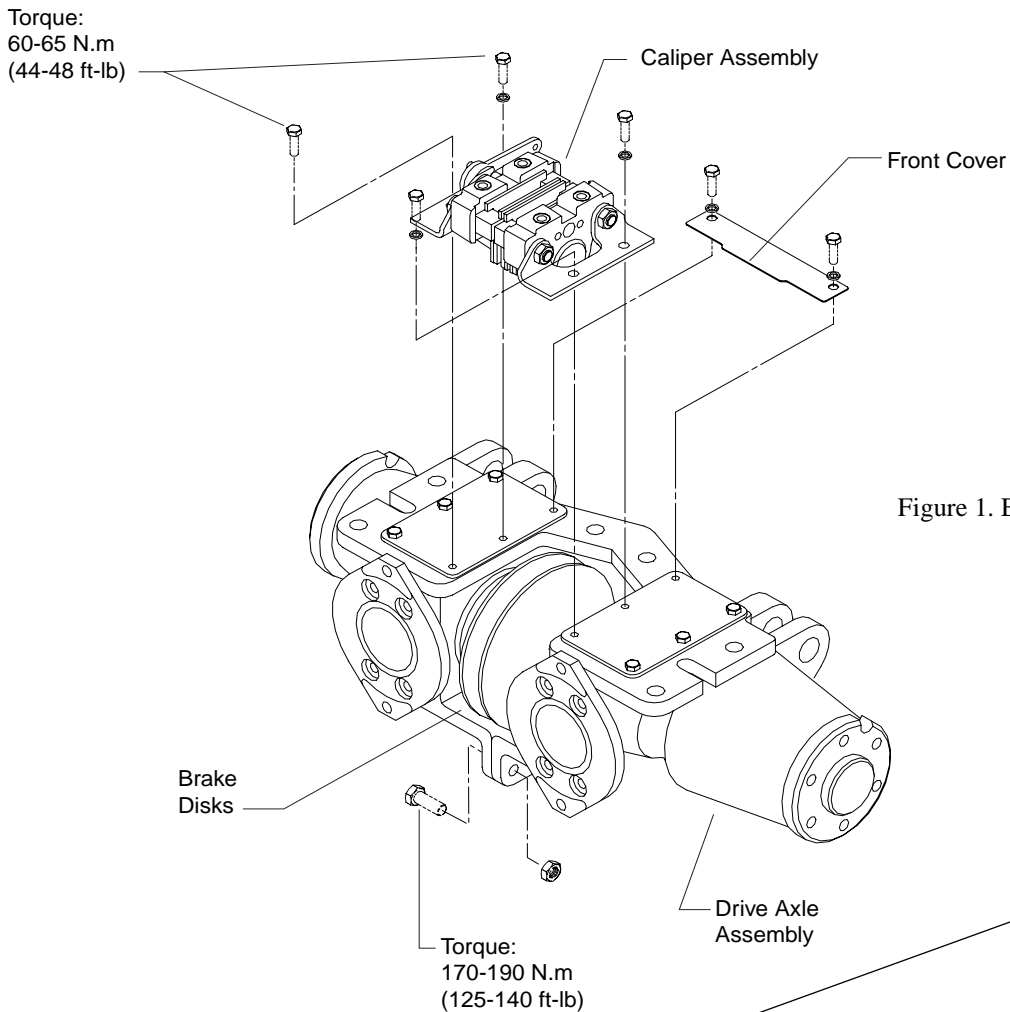

Figure 1. Brake Mounting
2. Replace brake as shown in Figure 1: